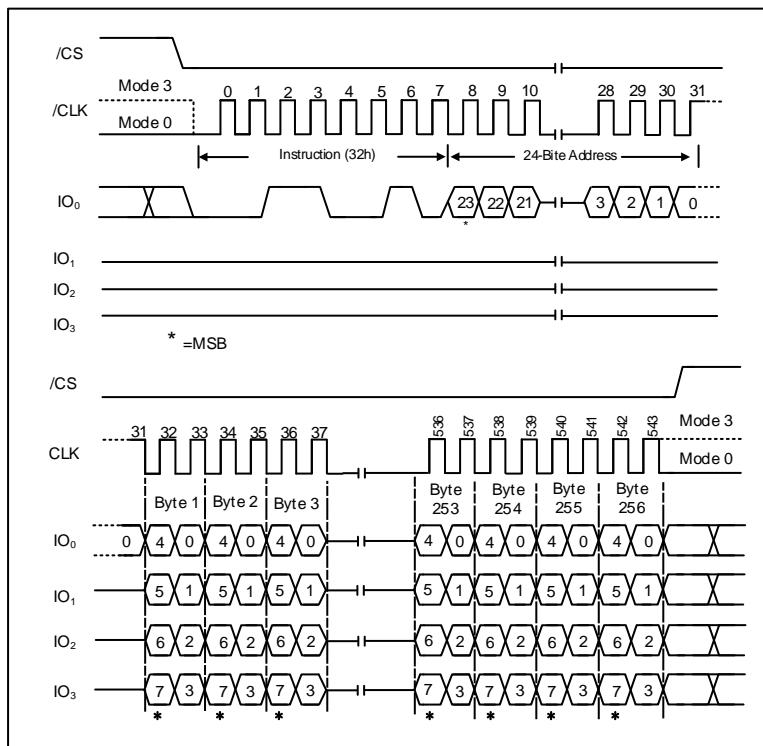

Figure 19. Quad Input Page Program Instruction (SPI Mode only)
To use Quad Input Page Program the Quad Enable (QE) bit in Status Register-2 must be set to 1. A Write Enable instruction must be executed before the device will accept the Quad Input Page Program instruction (Status Register-1, WEL=1). The instruction is initiated by driving the /CS pin low then shifting the instruction code “32h” followed by a 24-bit address (A23-A0) and at least one data byte, into the IO pins. The /CS pin must be held low for the entire length of the instruction while data is being sent to the device. All other functions of Quad Input Page Program are identical to standard Page Program. The Quad Input Page Program instruction sequence is shown in Figure 19.